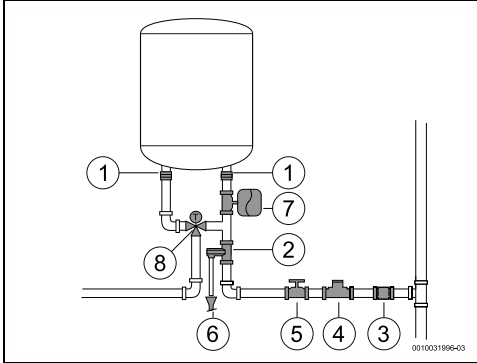

Fig. 12
- Never install any accessories (other than those shown in Fig. 12) between the pressure-relief valve and the cold water inlet (right-hand side) of the appliance.
- install a pressure reducer (Fig. 12, [4]). The pressure-relief valve will activate whenever the water pressure in the appliance is above 8 bar (± 1 bar), for which reason it is necessary to plan a way of draining off this water.
- install an expansion vessel (Fig. 12, [7]) to stop the pressure-relief valve opening so frequently. The volume expansion vessel should be equivalent to 5% of the volume of the appliance.